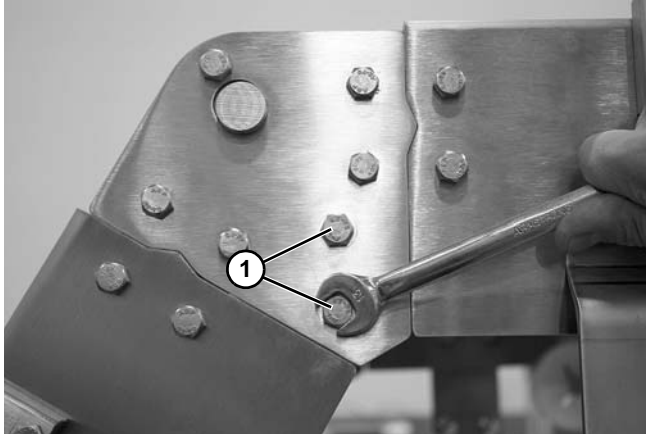
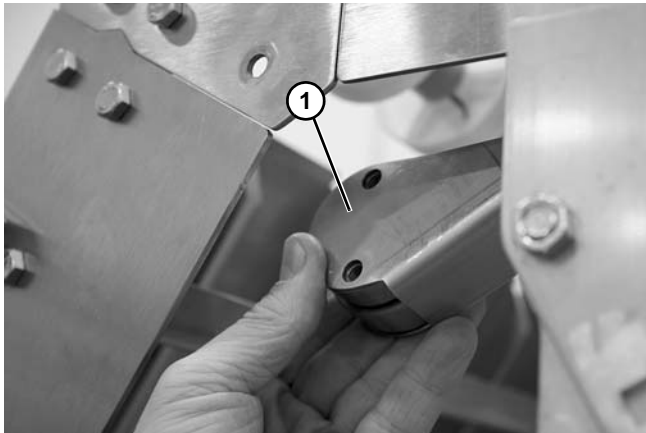

Figure 122
Figure 123
1. Remove bolts (**Figure 122, item 1**).
2. Remove bearing guard (**Figure 123, item 1**) with bearing.
1. Remove bolts (**Figure 122, item 1**) and bearing guard (**Figure 123, item 1**).